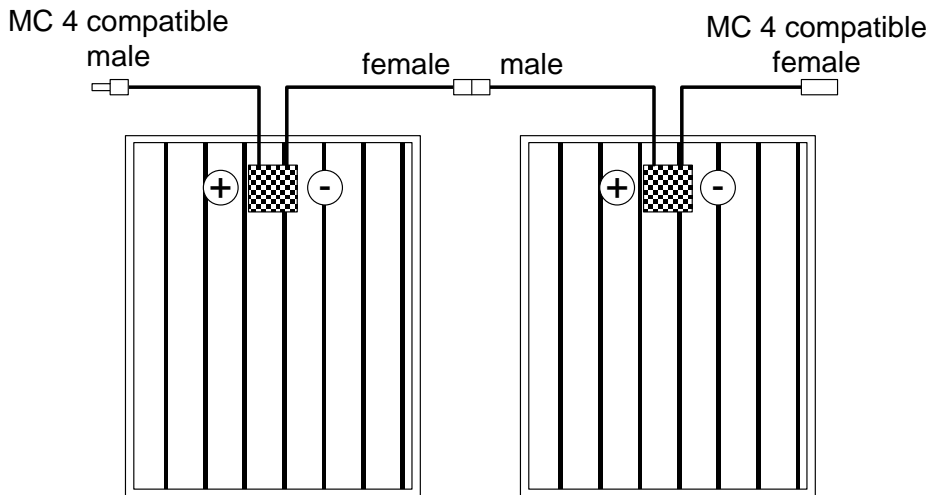

Figure 7-1. Connection in series
7.1.1 Connectors attached to Polysolar modules are MC4 compatible. When connected in series as shown in Figure 7-1, you should securely lock the male and female connectors together.